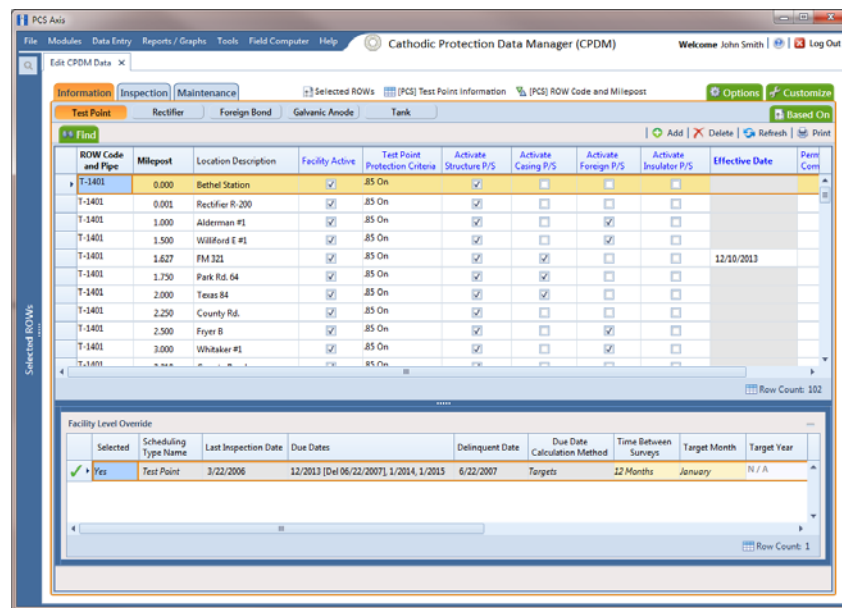

Figure 8-12. Test Point Information Data Entry Grid
- 3 Click the **Test Point** button , then the **Information** tab  to open the *Test Point Information* data entry grid (Figure 8-12, page 360).